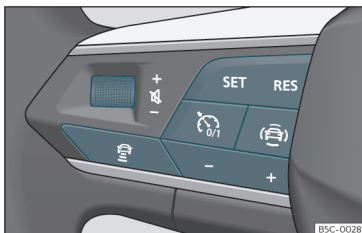

Fig. 159 On the multifunction steering wheel: buttons to operate the ACC
Your vehicle has ACC if it has a configuration menu in the infotainment system»» page 88 and if it has the ACC function buttons on the multifunction steering wheel»» Fig. 159 .
- To start regulation, press the button **SET** >>> **Fig. 159**.
To program the speed, press the + or – >>> **Fig. 159** buttons to the desired speed. The speed is adjusted at intervals of 10 km/h (5 mph).
- Press the button and then the button + or – >>> **Fig. 159**.